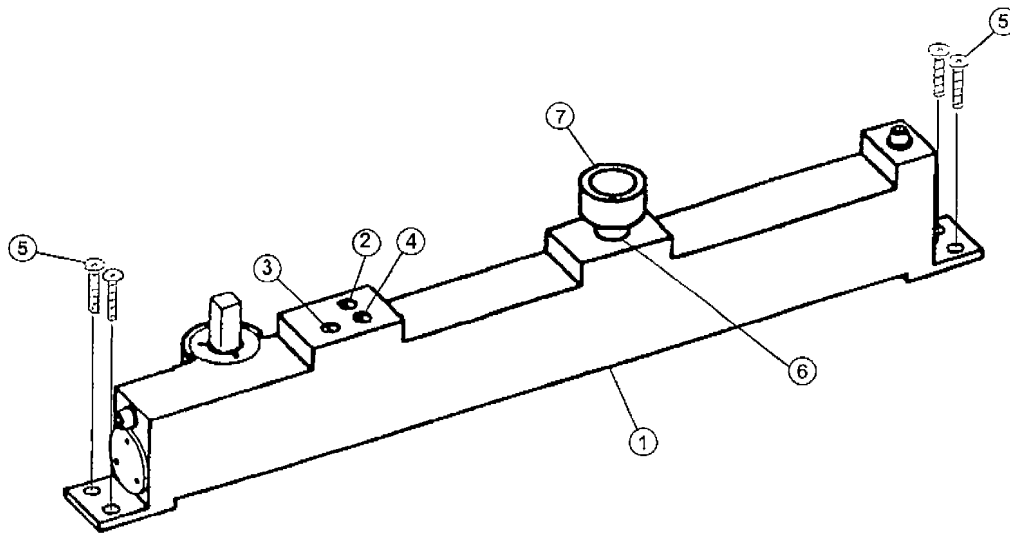

Figure 600-11.10. Typical Steel Products Balanced Door Operator (BDO); Right Hand BDO Shown.
600-11.4.2.3.1.3 Carefully open door to full open position and tilt the door away from guide track in the top of the door frame (toward the push/pull side of the frame) until the cam follower (6) (figure 600-11.10) is free of the guide track. Lift the entire door assembly out of the lower arm (7).
600-11.4.2.3.2.1 To reinstall door, extend upper and lower arms (2 and 7) to full open position, set door assembly on lower arm (7), and position cam follower (6) (figure 600-11.10) into guide track in the door frame.
**Failure to unlock piston rod lock screw (2) (figure 600-11.10) after door panel is reinstalled on the frame will result in permanent damage to the BDO.**
600-11.4.2.3.2.2 Carefully close arms and door while fitting vertical gear shaft into the upper arm (2), and open door to the full open position. Install upper arm block (4) and screw (5), and unthread the piston rod lock screw (2) (figure 600-11.10) until top of lock screw is flush with the top of the BDO housing.